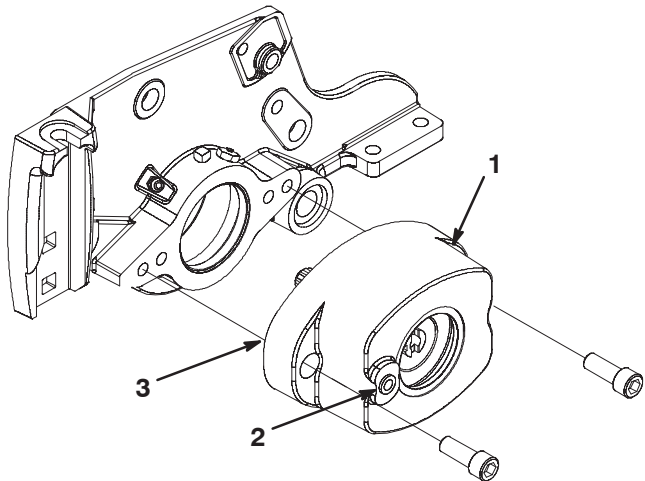

Figure 6
6. Mount the roller brush housing to the reel bearing housing with (2) 3/8 x 1 inch Allen Head Bolts (Fig. 6). The roller brush housing is to be positioned so the threaded hole is positioned toward the front of cutting unit.